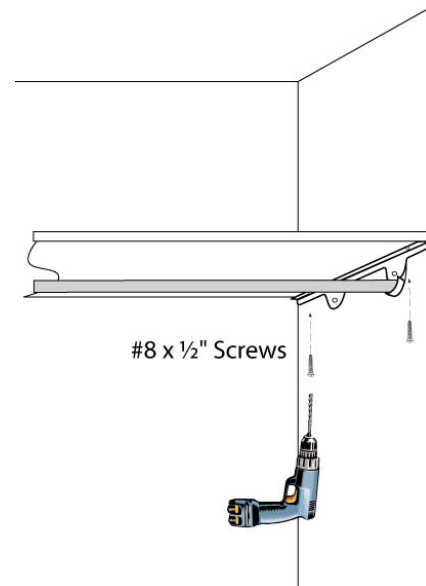
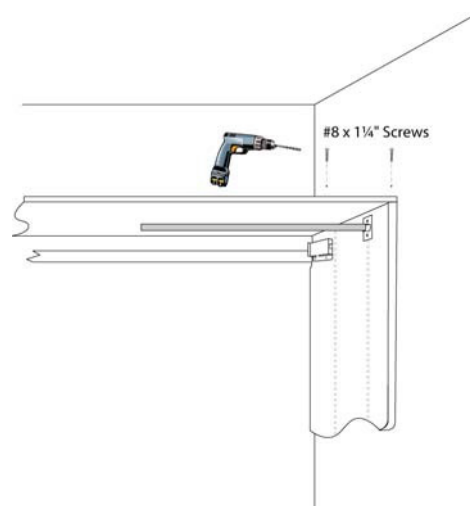

Fig. 6
Fig. 7
- Fasten the top shelf to each bracket using two (2) #8 x 1/2" screws mounted from underneath the bracket. (See Fig. 6.) (If the top shelf is being fastened to hanging uprights and cleats, use #8 x 1-1/4" screws. See Fig. 7.) Additionally, top shelves should be fastened to all towers using #8 x 1-1/4" screws.